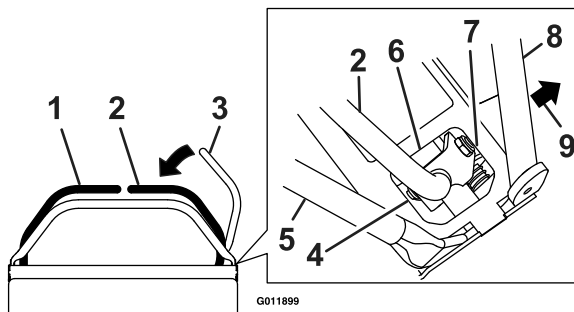

Figure 4
1. Leave the LH motion control lever in neutral and the RH lever in the neutral lock position (see Figure 4).